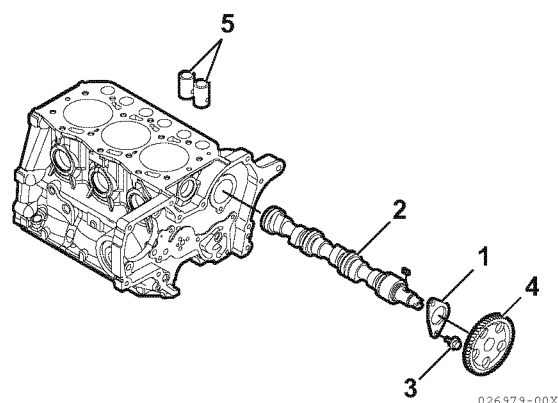

Figure 6-46
- Remove two bolts (**Figure 6-46, (3)**) retaining the camshaft thrust plate (**Figure 6-46, (1)**).
- Extract the tappets (**Figure 6-46, (5)**) through the top of the cylinder block. Mark the tappets so they can be installed in the same location.
- Slowly pull the camshaft (**Figure 6-46, (2)**) assembly out of the engine, being careful not to damage the front camshaft bushing.
- Remove the camshaft gear (**Figure 6-46, (4)**) only if the gear or camshaft require replacement. Use a knife-edge puller and a press to remove the gear. The gear is a shrink-fit and will need to be heated to 356° to 392°F (180° to 200°C) to remove.